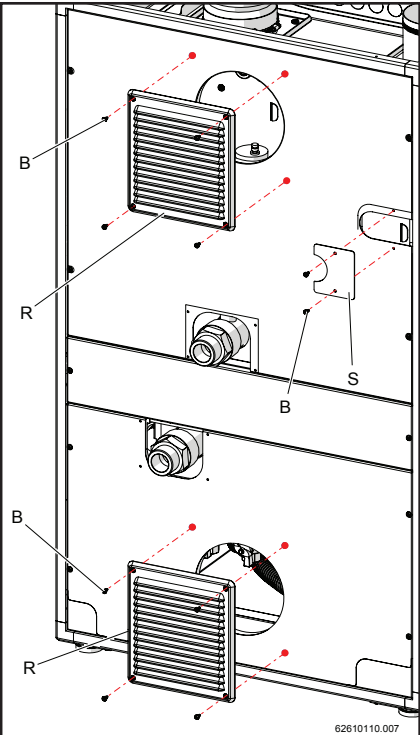

Figure 15-20
- 10.- Fix the two anti-rain grills "R" and the metal plates "S" to the covers previously assembled; using screws "B" (figure 15-20).